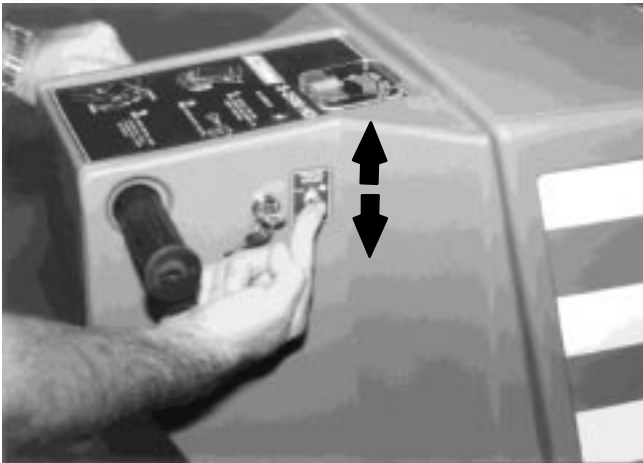

FIG. 7.
4. Select a speed with the travel speed selection switch (Figure 7):